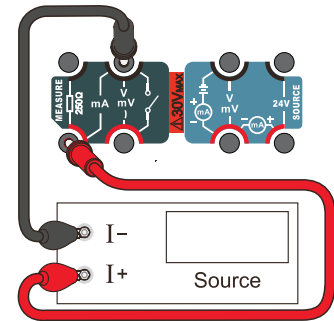

Figure 9.5 Current measure
1. Refer to Figure 9.5 to connect test leads and begin to measure.
In the options of source (Figure 9.5) use , key to switch the 4 functions: current source, current simulate mV voltage source, voltage source.